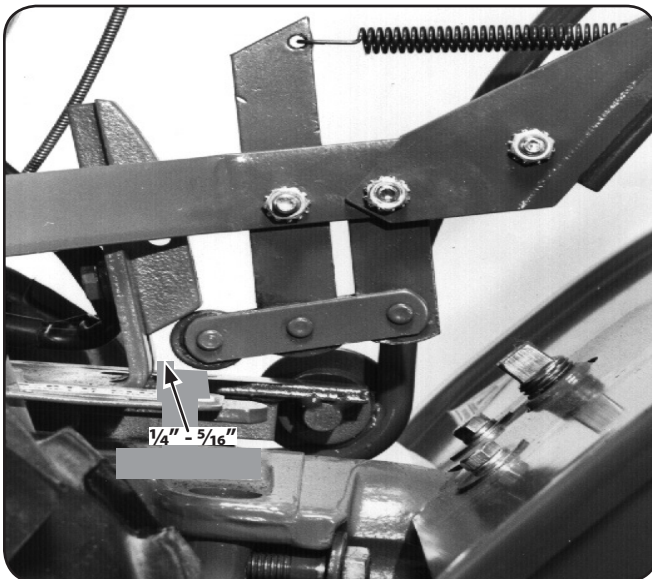

Figure 6-13
2. Move the Wheels/Tines/PTO Drive Lever fully down to the FORWARD position. The clutch roller at the bottom of the lever should be positioned underneath the belt adjustment block. See Fig. 6-13. Don't let the clutch roller move during the next few steps. If it moves, you'll get a false belt tension reading.
3. The belt tension is correct if the front of the clutch roller is  $\frac{1}{4}$ "-to- $\frac{5}{16}$ " away from the face of the upright bracket that holds the adjustment block in place. See Fig. 6-13. To measure this distance: